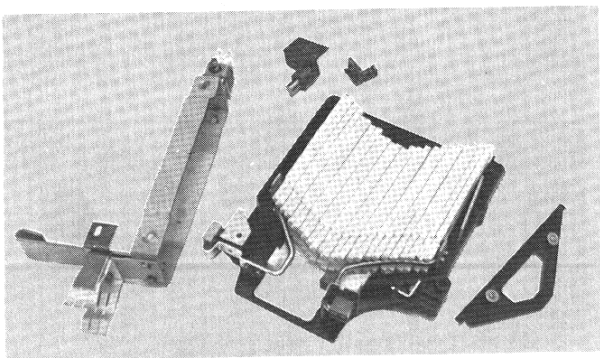

Fig. 27. Components of an arc-chute assembly
4. Open chute and replace parts as required (see Fig. 27).